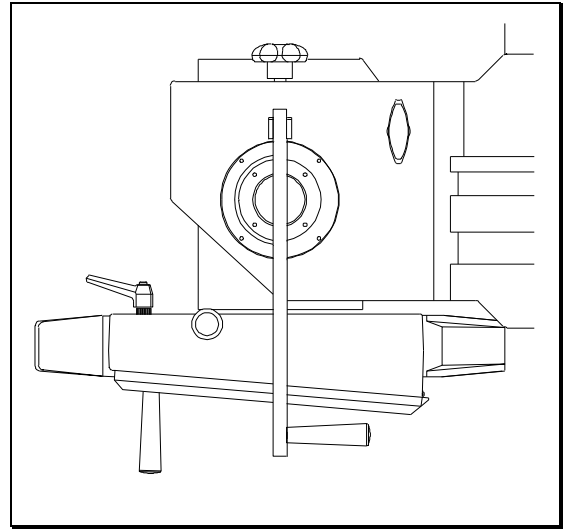

Figure 18
- 3 Left hand on grip of safety guard. Pull back blocking pin with your right hand and turn saw unit. (Figure 18).